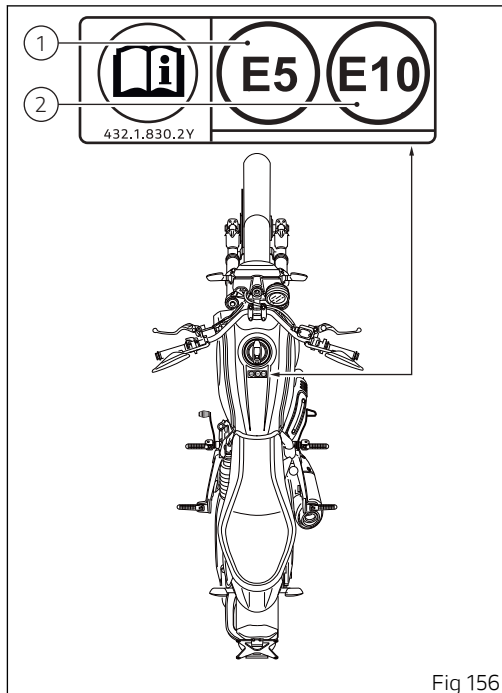

Fig 156
The label in (Fig 156) identifies the fuel recommended for this vehicle.
- 1) The E5 reference inside the label (Fig 156) indicates the use of fuel with a maximum oxygen content of 2.7% by weight and a maximum ethanol content of 5% by volume, according to EN 228.
- 2) The E10 reference inside the label (Fig 156) indicates the use of fuel with a maximum oxygen content of 3.7% by weight and a maximum ethanol content of 10% by volume, according to EN 228.